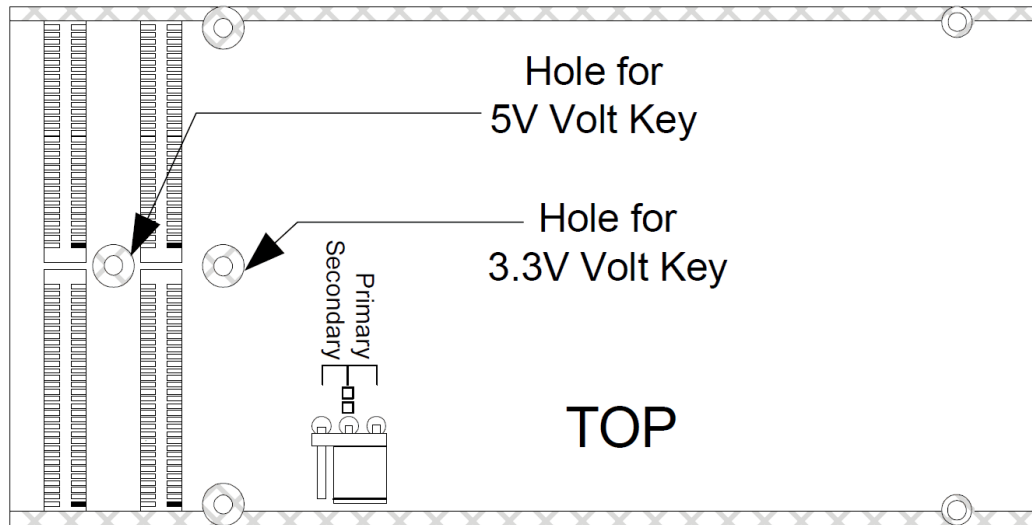

Figure 3-3 Voltage Keying Holes on the Top Spacer
2. Determine which voltage keying hole on the Top Spacer is appropriate, as shown in Figure 3-3.